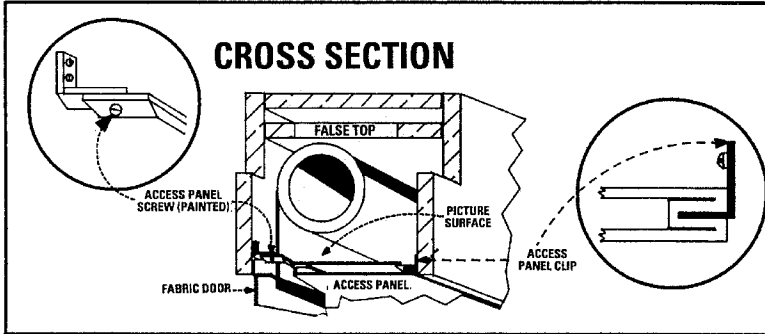

FIG.3
5. Remove tape strips and release fabric (Fig. 2). Picture surface should hang freely (Fig. 3). Remove any tape left hanging on back of fabric. Bottom edge should be positioned between bottom edge of case and center of roller.
1. Press switch "down" so that fabric door opens (Fig. 3).
2. Remove screws (2) located on each bumper bracket.
3. Remove the access panel (2 screws, Fig. 3).